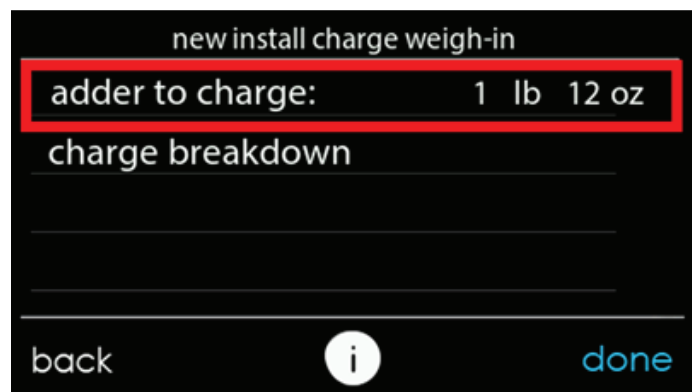
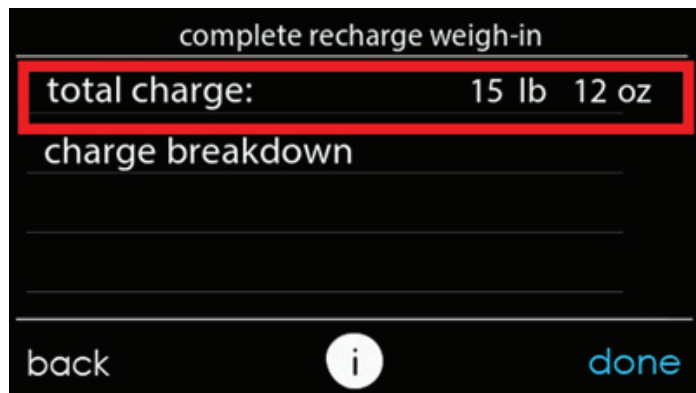

Fig. 19 – Additional Required Charge for New Installation A20038
Fig. 20 – Total Charge Required for a Complete Charge A20039
13. The "new install charge weigh-in" screen will show the additional charge that needs to be added to the system to account for the ID coil and line set (see Fig. 19).
14. If this is a complete re-charge then select "complete recharge" in the "charging mode selection" screen. This screen will show the total amount of charge to add for the indoor coil, line set, and outdoor unit (see Fig. 20). The "charge breakdown" screen shows the charge required for each component of the system.
In heating mode, the required charging method is by weigh-in. On new installation or complete recharge, refer to the refrigerant charging screen in the user interface (UI) to obtain the required charge adjustment and/or total charge required (see Fig. 19 & Fig. 20). Use the UI and Heating Check Charts (located on the inside of the control box cover) to check system operation during HEATING mode. The indoor conditions must be between 60°F (15.6°C) and 80°F (26.7°C) to check the charge. The outdoor coil must be dry and ice/frost free. Do not check for pressure agreement if the outdoor has rain, mist or snow present.